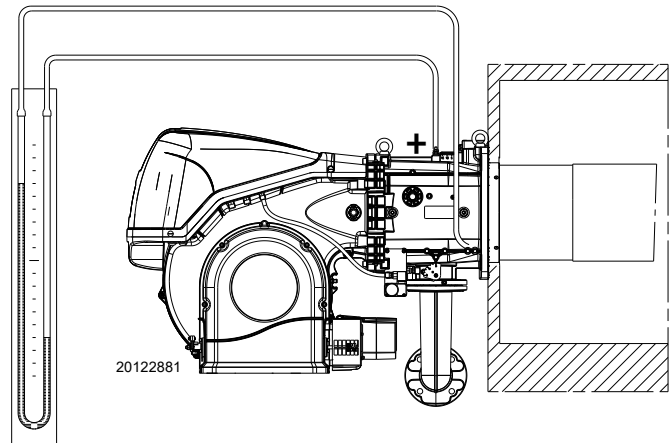

Fig. 23
Close the thermostats/pressure switches and set the switch of Fig. 23 to “1/ON”.
- put the switch of Fig. 23 to “2/OFF” and wait until the control box carries out the switching off phase;